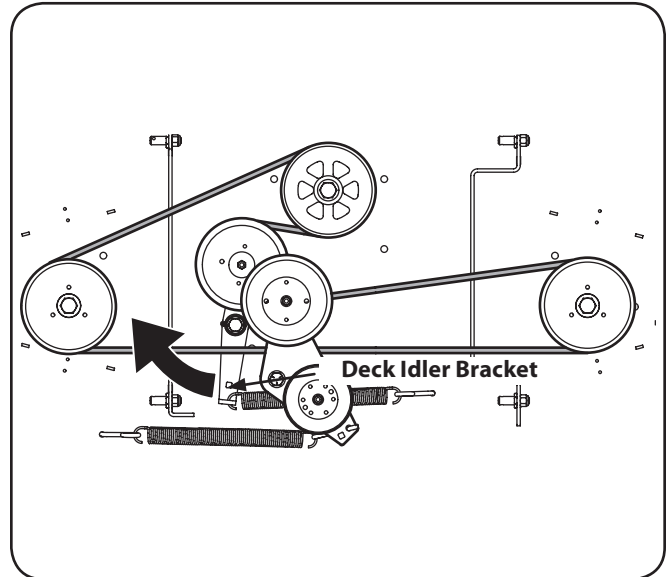

Figure 7-7
4. Using a 1/2" drive insert the male end into the 1/2" square opening in the deck idler assembly and rotate the idler clockwise. See Figure 7-7. While holding the deck idler, loosen the deck belt from the pulley and slide the belt away from the pulley.
5. Route the new belt as shown in Figure 7-7. Then reinstall the deck and PTO belt as instructed on pages 33-34.